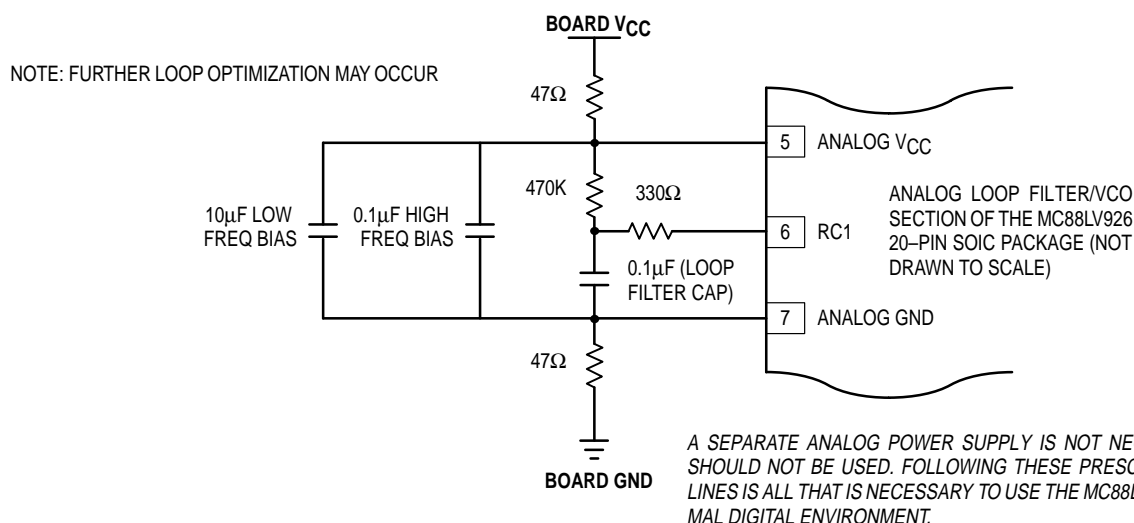

Figure 6. Recommended Loop Filter and Analog Isolation Scheme for the MC88LV926
1. Figure 6. shows a loop filter and analog isolation scheme which will be effective in most applications. The following guidelines should be followed to ensure stable and jitter-free operation:
purpose of the bypass filtering scheme shown in Figure 6. is to give the 88LV926 additional protection from the power supply and ground plane transients that can occur in a high frequency, high speed digital system.
2. In addition to the bypass capacitors used in the analog filter of Figure 6., there should be a 0.1 μF bypass capacitor between each of the other (digital) four V_{CC} pins and the board ground plane. This will reduce output switching noise caused by the 88LV926 outputs, in addition to reducing potential for noise in the 'analog' section of the chip. These bypass capacitors should also be tied as close to the 88LV926 package as possible.